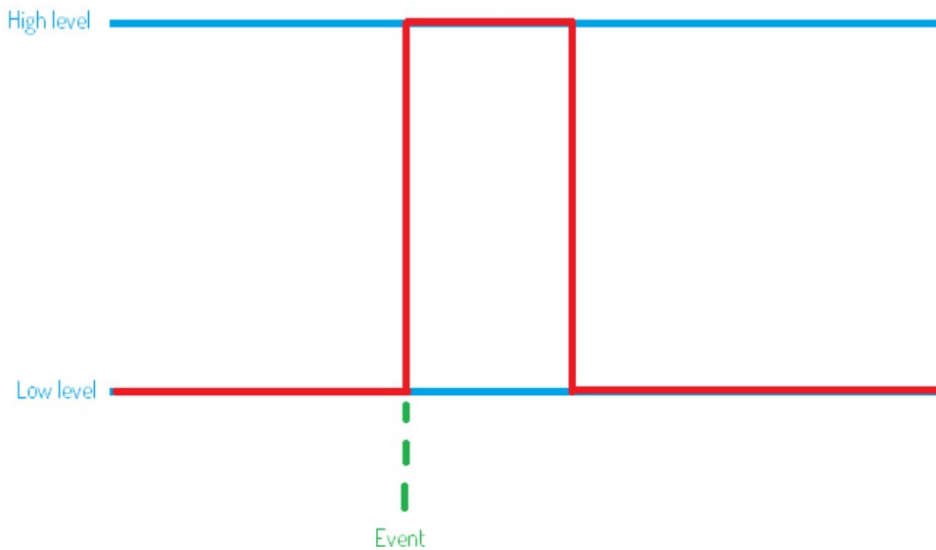

Figure 87. Trigger out setup for pulse high.
- Pulse High (PH) - Each event is signalled by a signal transition from low to high, then shortly high to low (Figure 87)